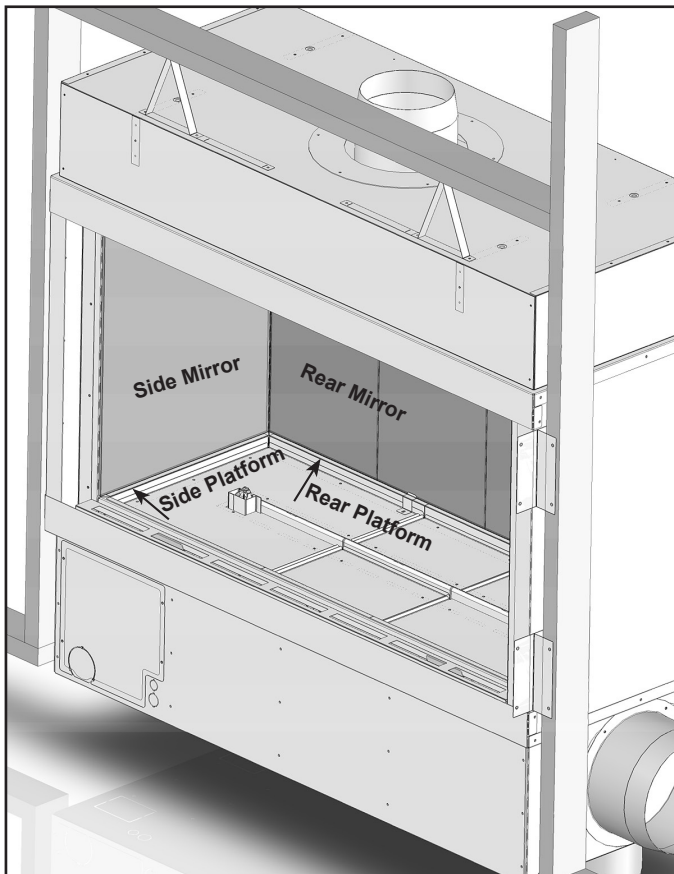

Figure 2 Placing Mirrored Panels in Firebox - Similar Side(s) Out
3. Set the mirrored panel on the rear platform above the media bed. Do not set the mirrored panel down on the media bed or damage to the media screen and/or mirrored panel could occur. Set the bottom of the mirrored panel down first, then rotate the top into place. See Figure 2.
5. Install side mirrored panel(s) by setting the mirrored panel into place on the side platform above the media bed. See Figure 2.
3. Install the end panel(s) by setting it into place on the platform above the media bed. See Figure 2.
4. Install the glass clip into the side of the fireplace above the mirrored panel to hold the mirrored panel in place. See Figure 2.